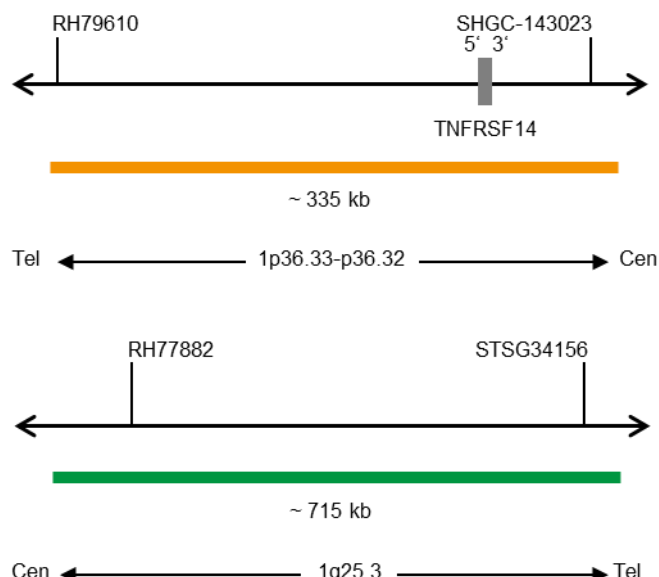

Fig. 1: Top: SPEC TNFRSF14 Probe map, SPEC 1q25 Probe map (not to scale)
- ZyOrange (excitation 547 nm/emission 572 nm) labeled polynucleotides (~4.5 ng/μl), which target sequences mapping in 1p36.33-p36.32* (chr1:2,233,802-2,569,490) harboring the TNFRSF14 gene region (see Fig. 1).
- ZyGreen (excitation 503 nm/emission 528 nm) labeled polynucleotides (~10 ng/μl), which target sequences mapping in 1q25.3* (chr1:184,271,714-184,986,522) (see Fig. 1).